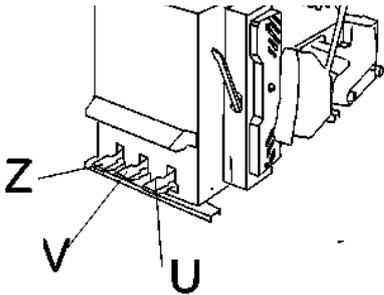

Fig.7
- Press down the pedal (U) (Fig 7) to activate the Bead Breaker. Release pedal (U) (Fig 7) when the blade has reached the end of its travel or when the bead is broken. Rotate the tire slightly and repeat the operation around the entire circumference of the rim and from both sides until the bead is completely separated from rim.